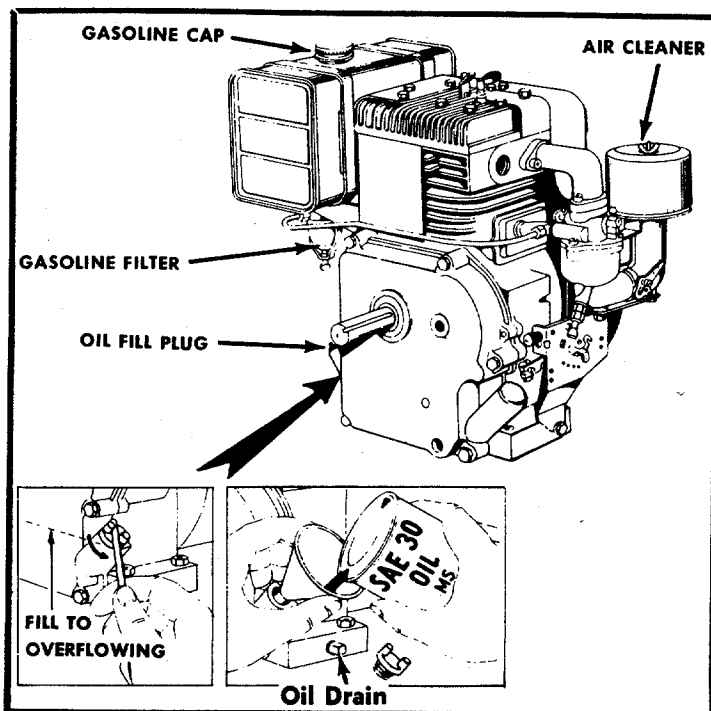

FIGURE 12. OIL AND GASOLINE FILL
- Step 1. With the machine on level ground, place a suitable metal container under the oil drain plug, then remove the drain plug. See figure 12.